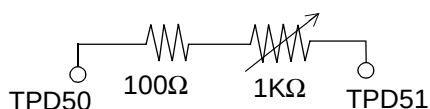

Figure 2. HHS jig
4. HHS jig (see Fig. 2)
4. Prepare HHS jig to be connected between TPD50 and TPD51 as shown in Fig. 2.